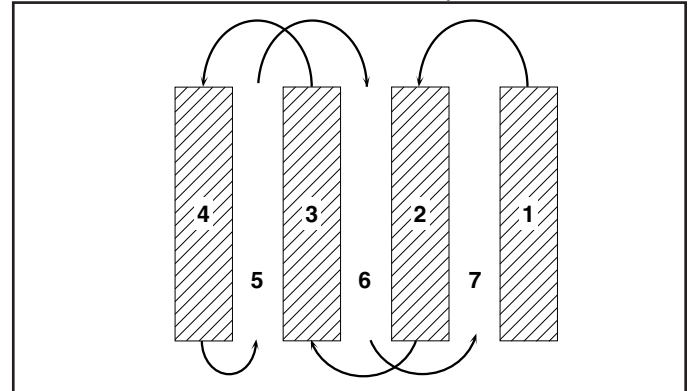

FIG. 9
- You will find tilling much easier if you leave a row un-tilled between passes. Then go back between tilled rows. (See Fig. 9) There are two reasons for doing this. First, wide turns are much easier to negotiate than about-faces. Second, the tiller won't be pulling itself, and you, toward the row next to it.